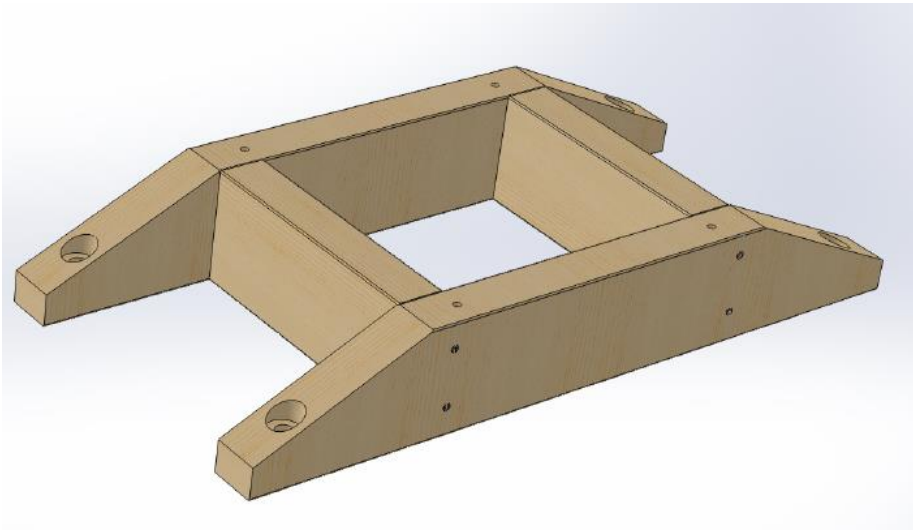

Figure 1. Wooden base for engine stand.
- ☐ **Be assembled as illustrated in Figure 1.**